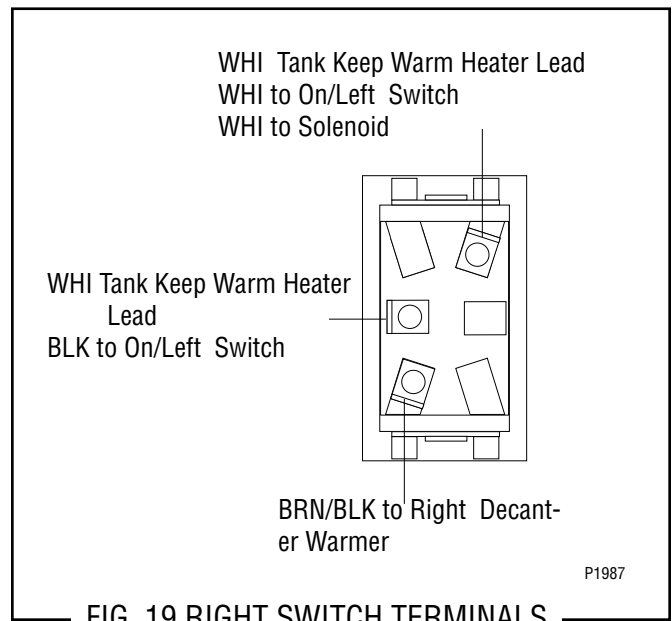

FIG. 19 RIGHT SWITCH TERMINALS
4. Refer to FIG. 19 when reconnecting the wires.